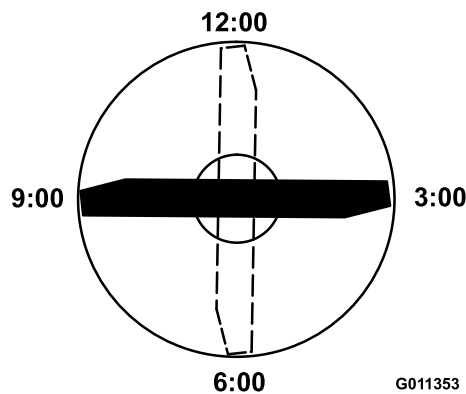

Figure 100
5. Position the cutting edge of the marked end of the blade at 12 o'clock (straight ahead in the direction of mowing) (Figure 100) and measure height from table to cutting edge of blade.
6. Rotate the marked end of the blade to the 3 and 9 o'clock positions (Figure 100) and measure the heights.